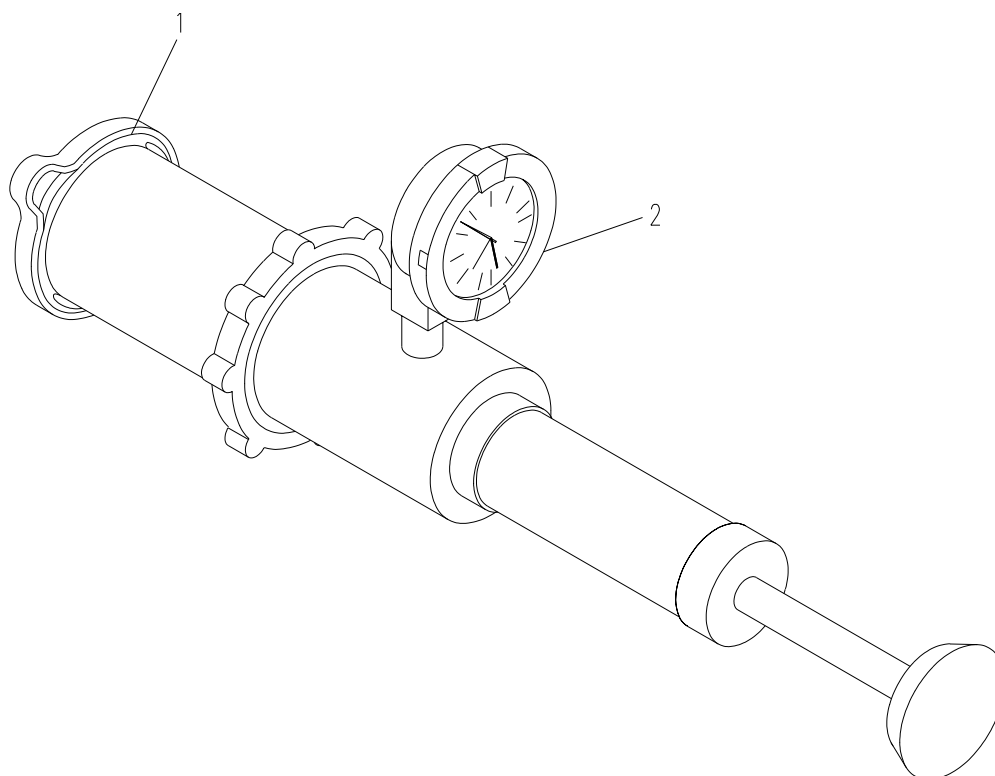

Figure 5-5. Radiator Cap
- Connect radiator tester (2, Figure 5-5) to radiator cap (1).
- If time is less than 10 seconds, replace radiator cap (1) (para 3.7.).